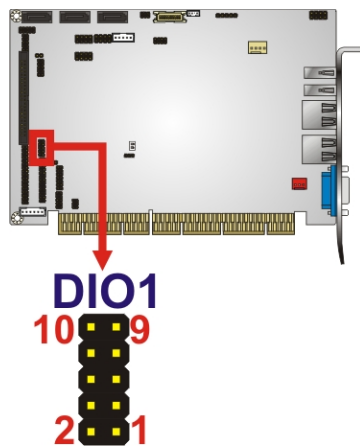

Figure 3-6: DIO Connector Location
- CN Location:** See **Figure 3-6**